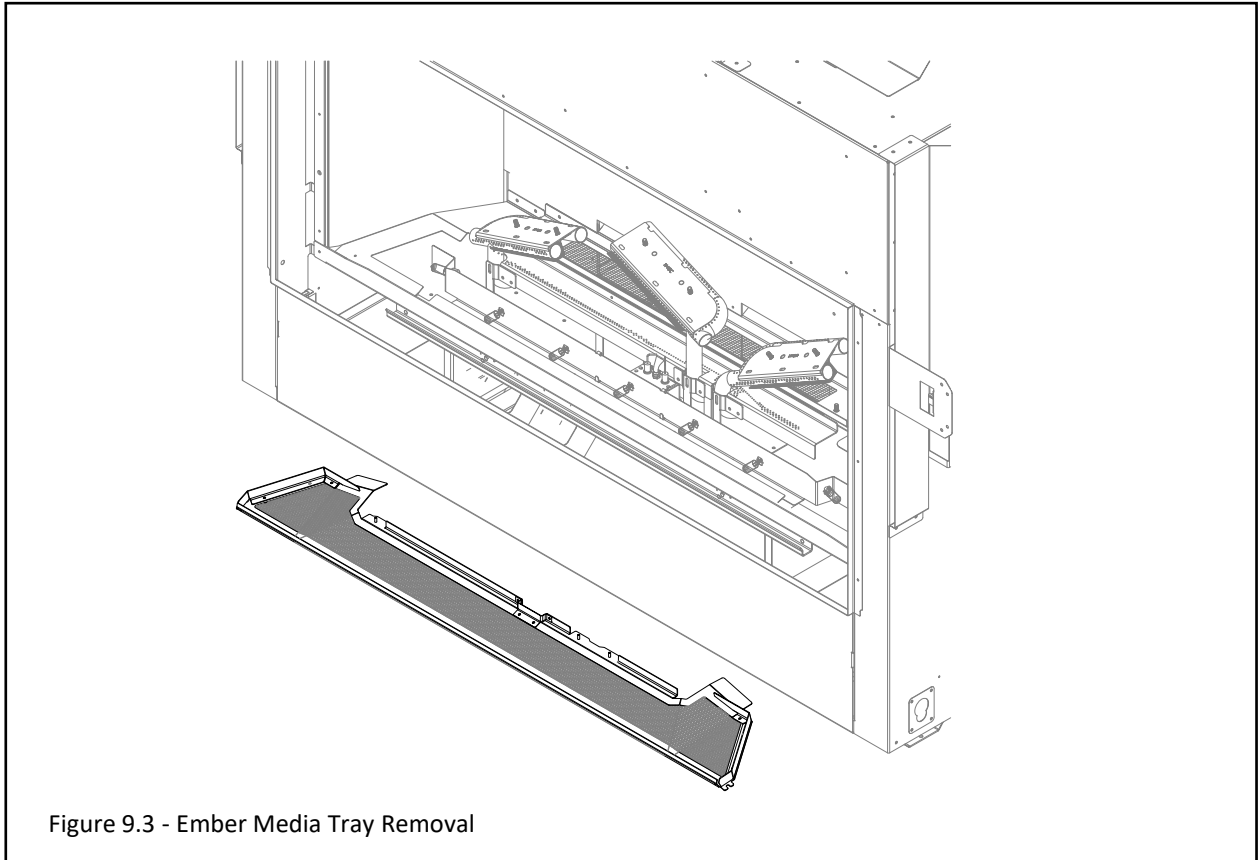

Figure 9.3 - Ember Media Tray Removal
3. Remove and retain (2) screws from the front ember media tray. Lift tray up and out of firebox. See Figure 9.3.
4. Install (7) halogen bulbs (included in components packet) into the lamp bases.